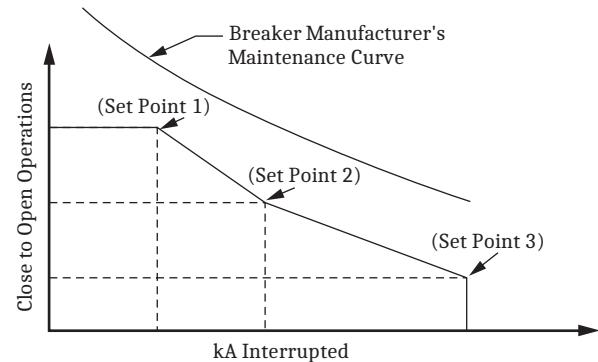

Figure 30 Breaker Contact Wear Curve and Settings
- Every time the breaker trips, the relay integrates interrupted current. When the result of this integration exceeds the threshold set by the breaker wear curve (*Figure 30*), the relay can alarm via an output contact or the optional front-panel display. With this information, you can schedule breaker maintenance in a timely, economical fashion.